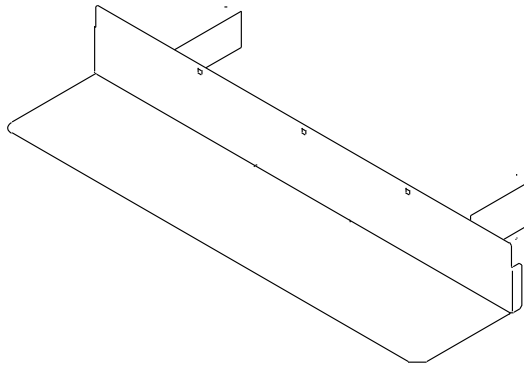

Figure 3-15. Rear Ground Plate Assembly (PN 03F4846). (Used if the floor is raised.)
- 3) **If the floor is raised**, install the rear ground plate assembly PN 03F4846 (see Figure 3-15 on page 3-24). Slide the two perforated shields between the machine casters and secure the assembly on the cable-retaining bar using three screws P/N